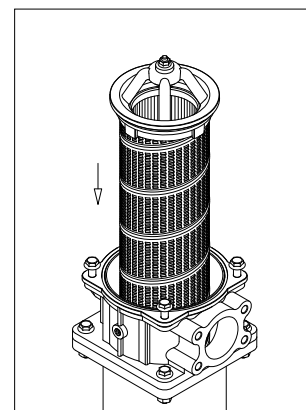

fig. 10
- (Fig. 10) Insert the internal filter until the O-Ring is seated in the conical seat of the head.